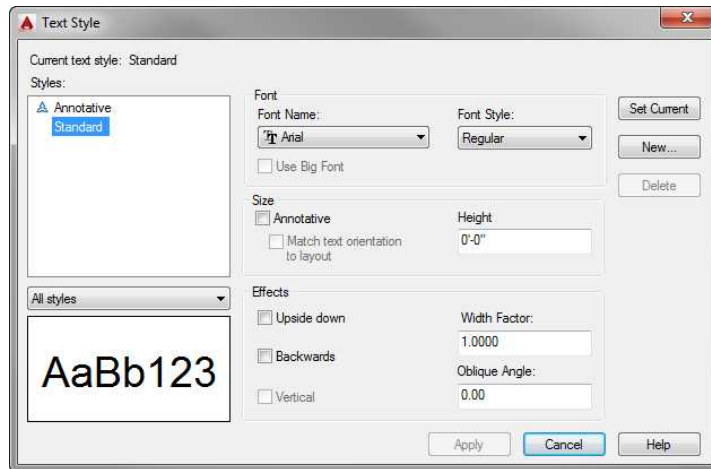

FIGURE 8.3: The Text Style dialog box, where you'll begin setting up text styles
After you start the STYLE command, the Text Style dialog box shown in Figure 8.3 opens.
Refer to Figure 8.3 for a moment, and note that the Standard text style has a height of 0'-0" (0). When the current text style has a height set to 0, you're prompted to enter a height each time you begin to place single-line text in the drawing. The default height for the A-Title text style will scale to 1/4" (or 0.25 for decimal units and 7 for metric) when plotted. Multiline text will use the default height of 1/4" (7 mm) unless you change it.